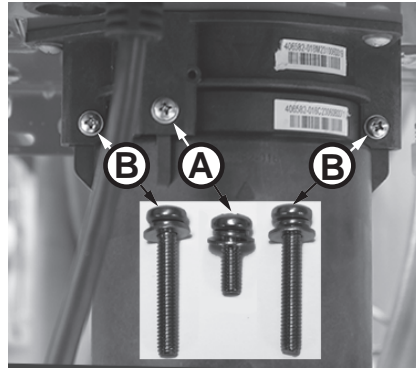

Figure 201 - Identify cartridge screws
**5** Locate the three (3) screws securing the X3®/Bypass cartridge as shown in Figure 201. Remove the **(A)** M4-12mm screw and the two **(B)** M4-25mm screws from cartridge. Place screws aside in a safe place for reinstallation.